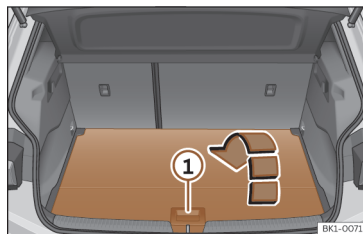

Fig. 164 In the luggage compartment: open the second luggage compartment floor.
- To **open** it, grasp the handle >>> **Fig. 164** **!** and fold the rear of the luggage compartment floor forwards in the direction of the arrow.